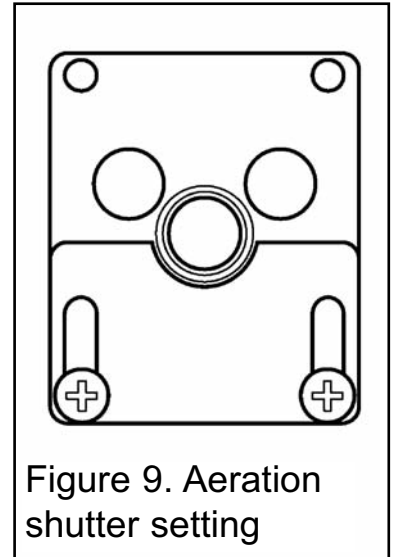

Figure 9. Aeration shutter setting
- The aeration shutter is factory set. It is important to ensure that the aeration setting is correct. Check the aeration shutter setting (See figure 9).
- To adjust the aeration setting, loosen the two aeration shutter screws, slide the aeration shutter to the position shown in figure 9 and tighten the fixing screws.